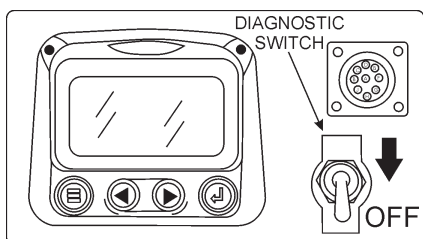

Figure 37. Diagnostic Switch (OFF Position)
1. Before starting the engine, make sure the diagnostic switch (Figure 37) on the Diagnostic Display Panel is in the "OFF" position.